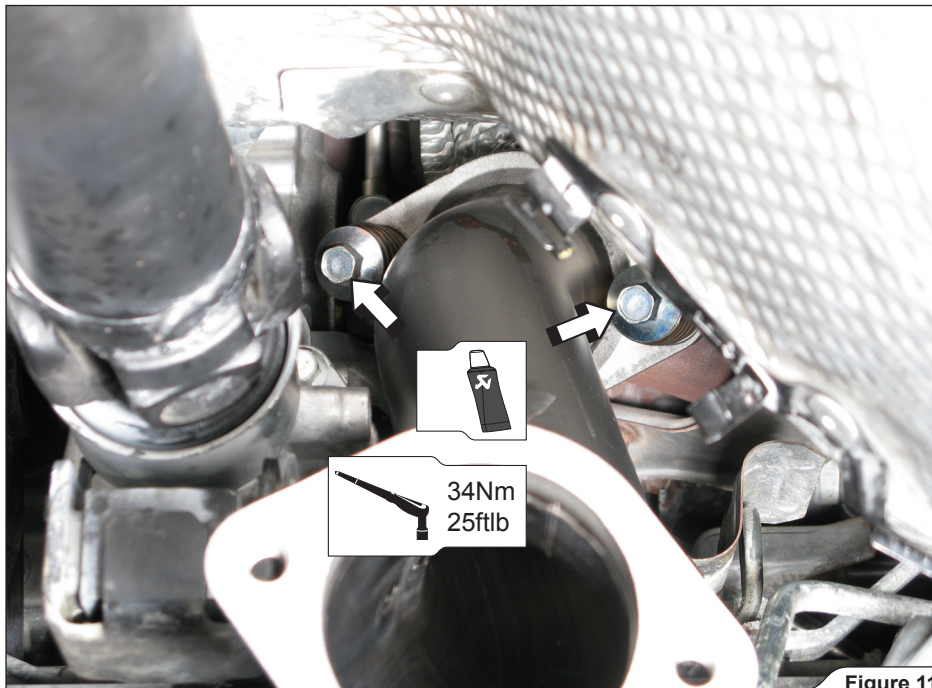

Figure 11
2. **For optional Down Pipe only:** assemble the Down Pipe onto the stock turbine housing, using stock bolts and springs (**Figure 11**).